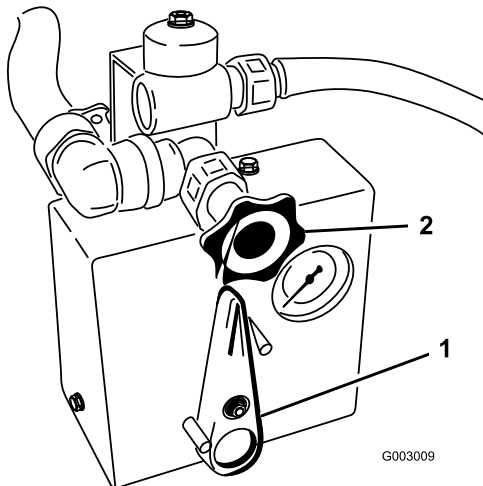

Figure 20
5. Turn the pressure control knob counter-clockwise (Figure 20).
6. Move the control handle clockwise, pointing up (Figure 20).
9. While spraying, use the pressure control knob to adjust the hand spray pressure (Figure 20).